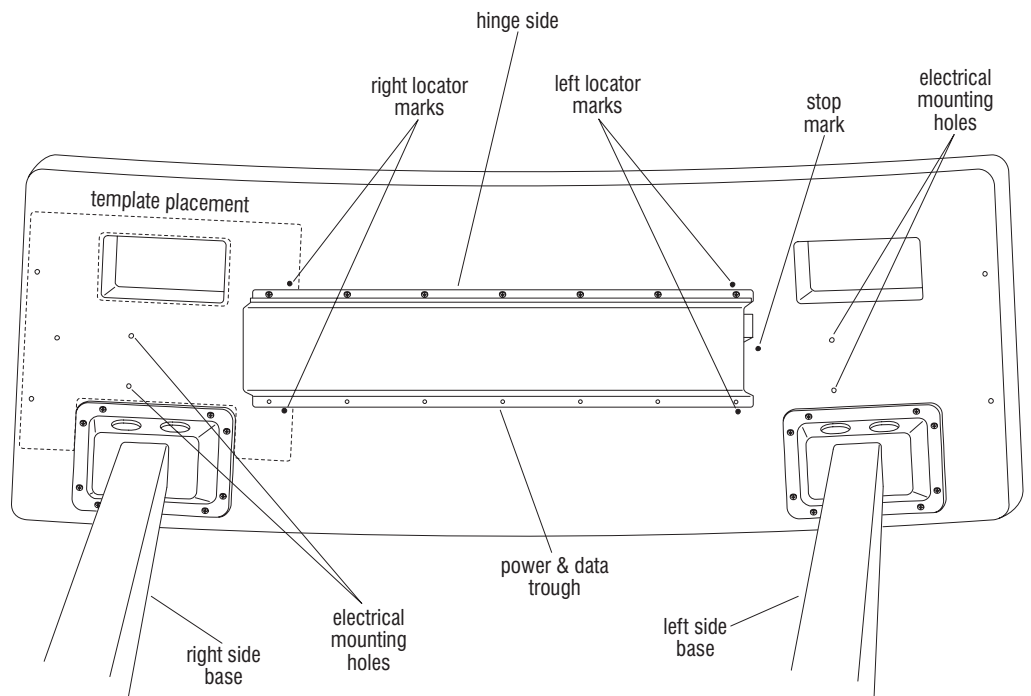

Figure 7
20. Position a power & data trough under the table top between two bases. Orient the hinge side of the trough to face the front of the top (front of the room). At the right side base (looking up from underneath at the front of the table top) notice the locator marks which were drawn through the template in step 20. The left three marks will guide where the power & data trough must be positioned at this right base. The trough is to be positioned between two left locator marks, but not to extend beyond the third "stop mark" (Figure 7). Looking now to the left side base, notice the right locator marks. The trough is to be positioned between these marks while following the guidelines described above for the right side of the trough at the right column with the left locator marks (Figure 7).